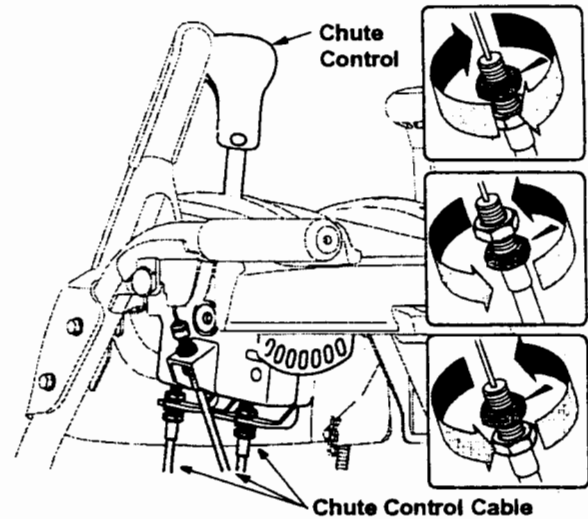

Figure 27
2. Adjust equally on both sides by working on both cables of each pair. See Figure 27.